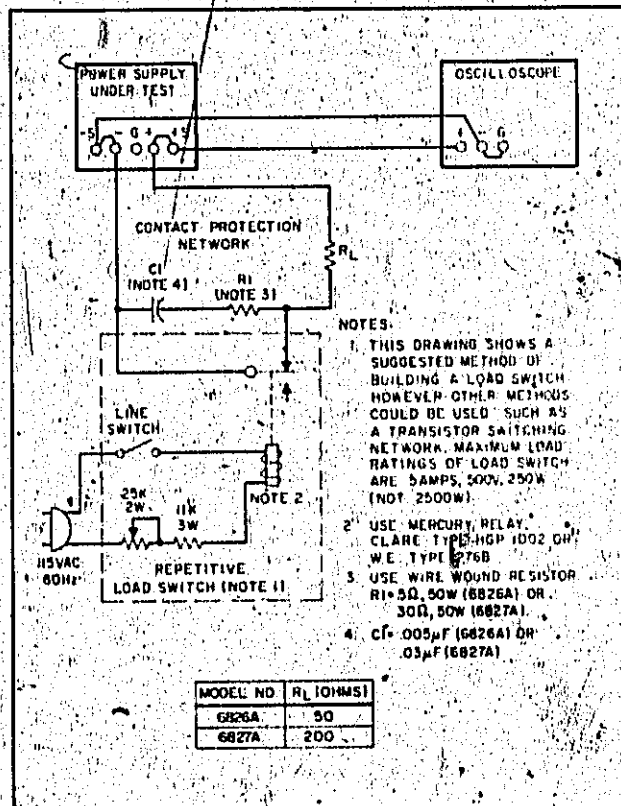

Figure 5-4. Transient Recovery Time Test Setup
5-30 A mercury-wetted relay, as connected in the load switching circuit of Figure 5-4 should be used for loading and unloading the supply. When this load switch is connected to a 60Hz ac input, the mercury-wetted relay will open and close 60 times per second. Adjustment of the 25K control permits adjustment of the duty cycle of the load current switching and reduction in jitter of the oscilloscope display.
- Connect test setup shown in Figure 5-4. Set MODE switch to POWER SUPPLY and RANGE switch to X10.